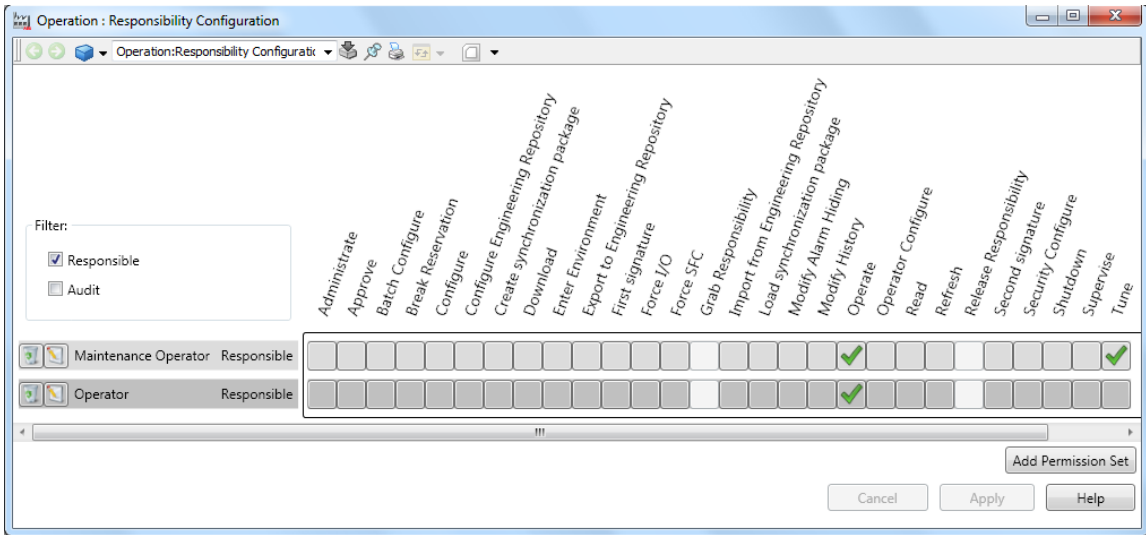

Figure 131. Modifying Responsibility
- To configure the Permission Set, select the necessary permissions from the grid, for example, select **Operate** and **Tune**, refer to Figure 131.